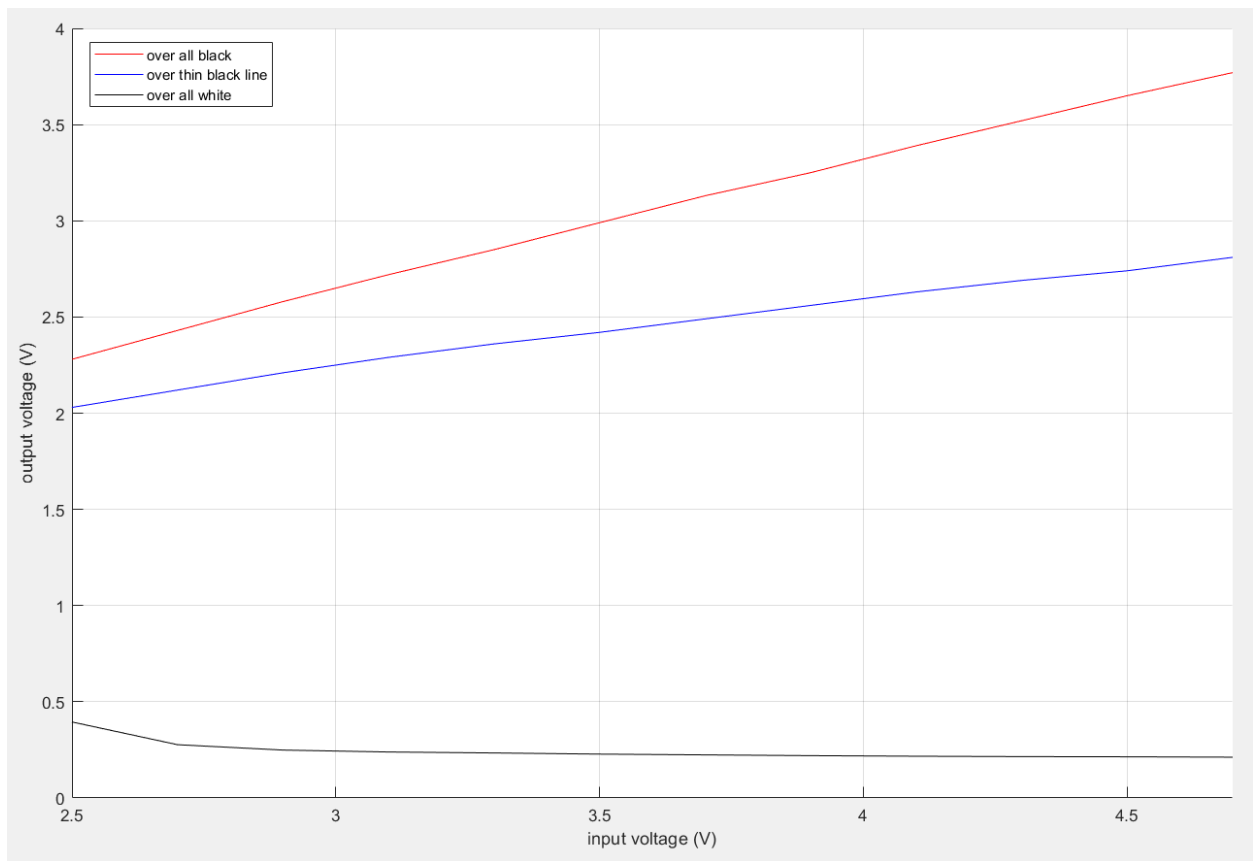

Figure 13 Output voltage dependence on input voltage over different features.  $R1 = 1.5 \text{ k}\Omega$ ,  $R2 = 220 \text{ k}\Omega$ , height = 2 mm.
- If sensor unit is over all black, all white or over a thin black line. Reading over all black will have maximum value as almost no light is reflected to the sensor. Reading over all white will have the smallest value as almost all light is reflected to the sensor. Reading over thin black line will have value lower than reading over all black due to parasitic light reflected from neighboring sensors (which are over white). See Figure 13.